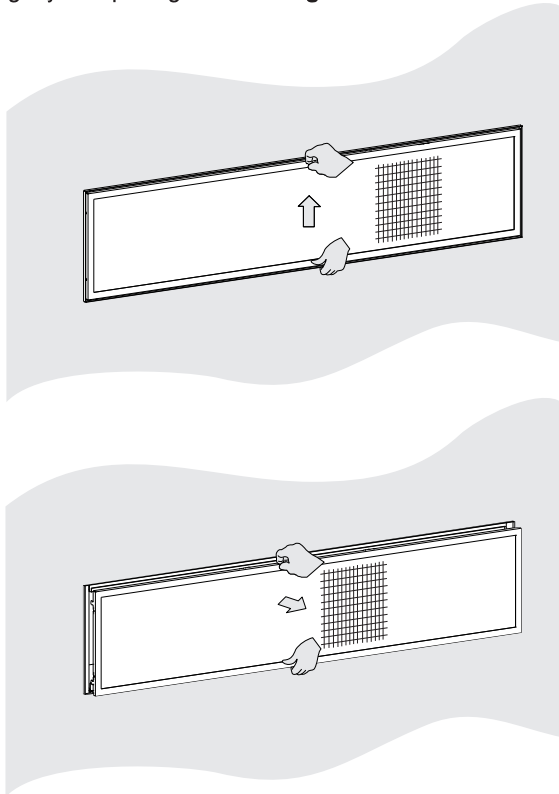

Figure 1
1. Remove barrier screen assembly from fireplace by lifting up slightly and pulling out. See Figure 1.